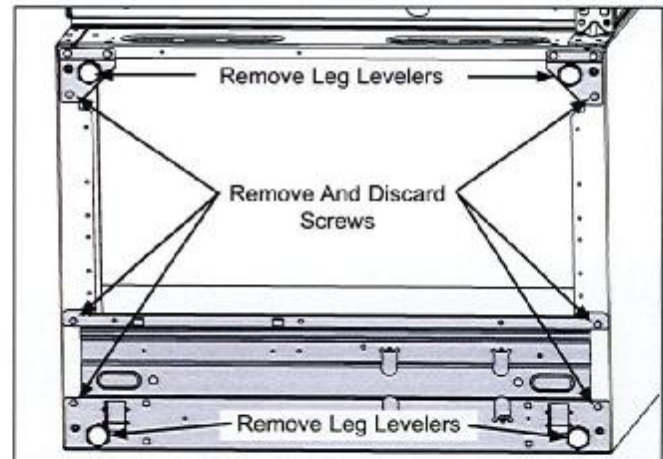

Figure 3.
b. Remove (3) screws from each side and discard. (See Figure 3)